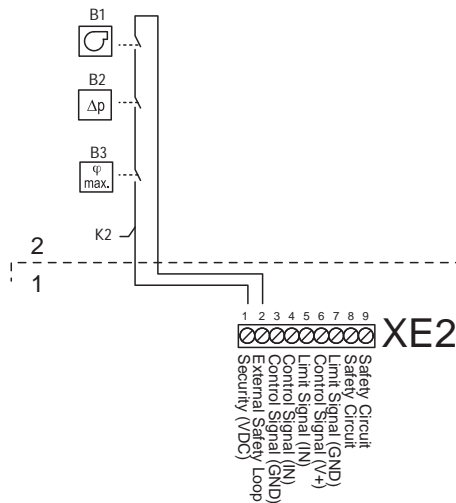

Figure 14 - External Safety Chain Connection
4. Connect the devices in series to terminals 1 (24 VDC) and 2 (external safety loop) of the control terminal block, XE2. Refer to Figure 14 above.